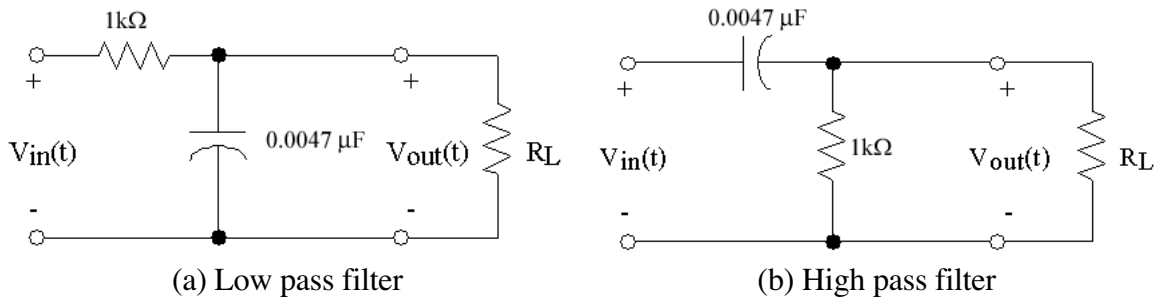
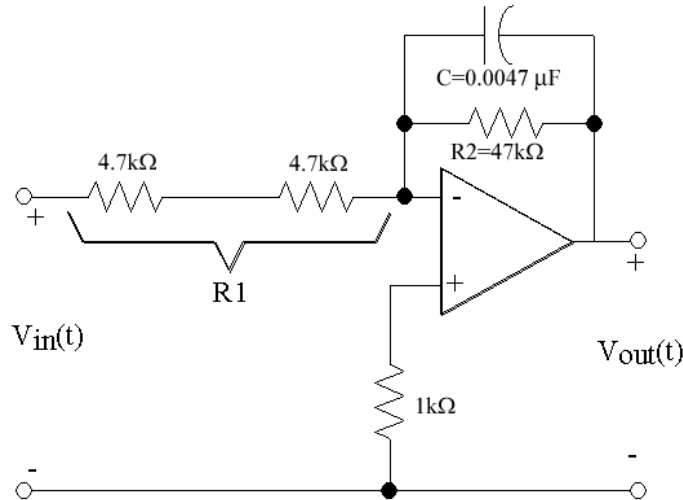
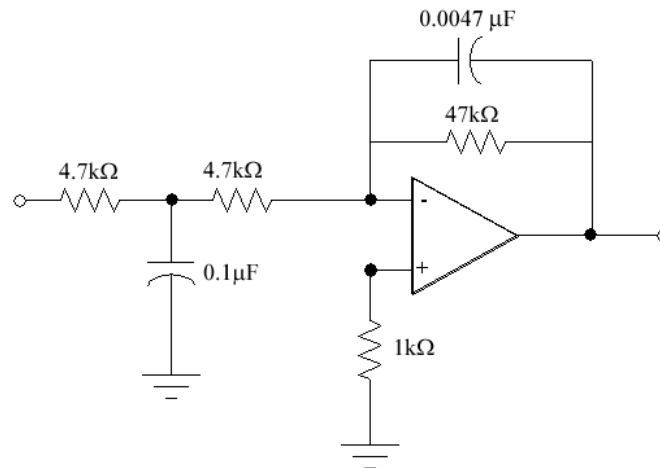

Figure 3. Passive filters.
Figure 4. First Order Active low pass filter.
Figure 5. Second order Active low pass filter.
An active filter is a circuit that includes an op amp as well as having the characteristics of a filter. Recall the circuits for passive high pass and low pass filters. Their circuit diagrams are shown in Figure 3. Note that in each case a load resistor, R_L , has been added to the circuit to make it describe a more realistic situation (there will always be a load on the output of a filter circuit). The frequency characteristics of the filter are dependent upon the load resistor, which is hardly a desirable feature. In this lab you will study a variation of the low pass filter, namely, an active low pass filter as shown in Figure 4. Active filters include an op amp as an integral part of the circuit. The effect of the op amp is two-fold. First, it serves as the source of current for the load that follows the filter, thus eliminating the effect of the load resistance on the characteristics of the filter and, second, it permits adding positive gain to the filter.
Note that in the circuit of Figure 4 there is a capacitor in the feedback loop. This circuit will behave similar to the low pass filter of Figure 3, but with a different cutoff frequency. (Note that the component values in the circuit of Figure 4 are not the same as those in Figure 3.) This is primarily because of non-ideal characteristics of the 741 op amp.
The filter circuits of Figure 3 and Figure 4 are called **first order filters** and they have similar abilities to reject frequencies past the cutoff frequency, i.e., their frequency response rolls off at the same rate. There will be occasions when you would like to have better frequency rejection than is provided by a first order filter. (Perhaps the signal that you are interested in is corrupted by lots of noise.) A filter such as that shown in Figure 5 can provide this increased attenuation of the high frequencies. Note that this filter includes a capacitor in the input network as well as in the feedback network. Such a filter is called a **second order filter**.
The transfer function, $H(j\omega)$, for the active low-pass filter circuit in Figure 4 can be mathematically shown to be
1. Build the active first order low pass filter circuit shown in Figure 4. **Keep the power supply output turned off while assembling the circuit.** NOTE: After completing a set of measurements on this circuit you will be adding a capacitor between the two $4.7k\Omega$ resistors as shown in Figure 5 for step 4, so be sure to leave adequate space.
4. Connect a $0.1 \mu F$ capacitor into the circuit as shown in Figure 5 and repeat Steps (2) and (3) above, recording your data in Data Table 4.
| Active low pass filter (Figure 4.) | $\left(\frac{R_2}{R_1}\right) \frac{1}{\sqrt{1 + (\omega R_2 C)^2}}$ | $\text{Tan}^{-1}(-\omega R_2 C)$ |